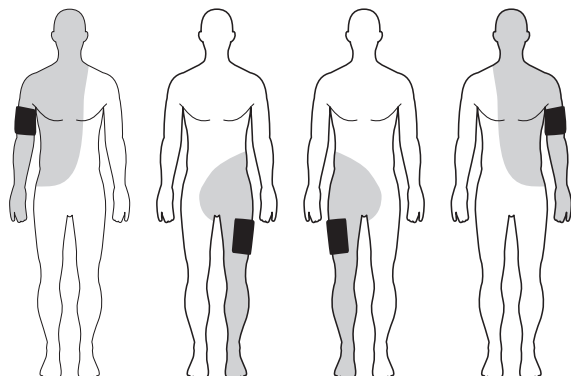

Figure 6 Pad Placement
3. Place the pad portion of the ground pad onto the patient, in proximity to the treatment site (see figure 6). The entire pad should adhere to the patient's body.